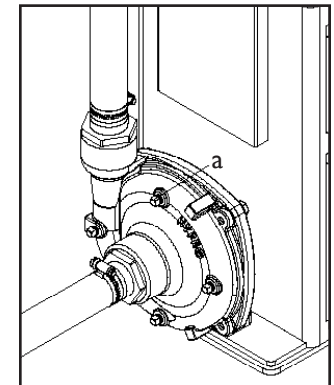

Figure 4: Pump priming with plug
2. If your pump is not equipped with a bleeder valve, remove the topmost plug (a) (Figure 4) from the face of the pump with the tractor off.